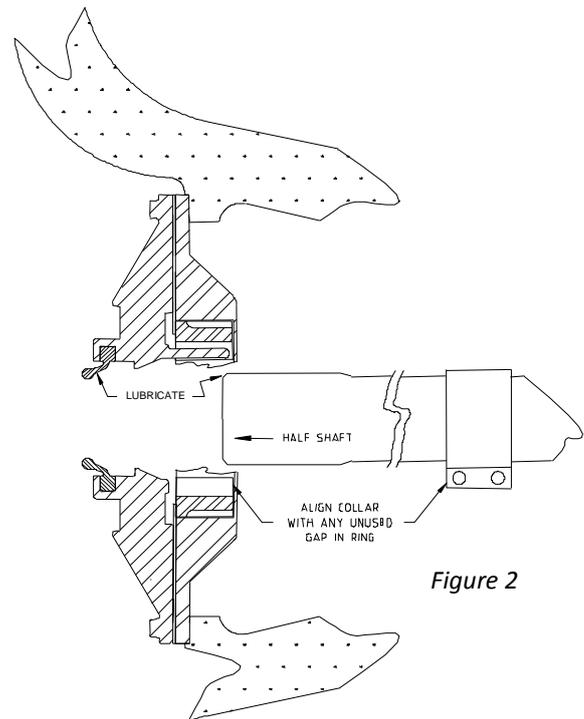

Figure 2
15. Insert the half shaft ensuring that the drive collar clamp is aligned with a notch in the traction aid ring (6G0969). Note that when an isolation seal is fitted there are two less useable notches in the traction aid ring. See figure 2.